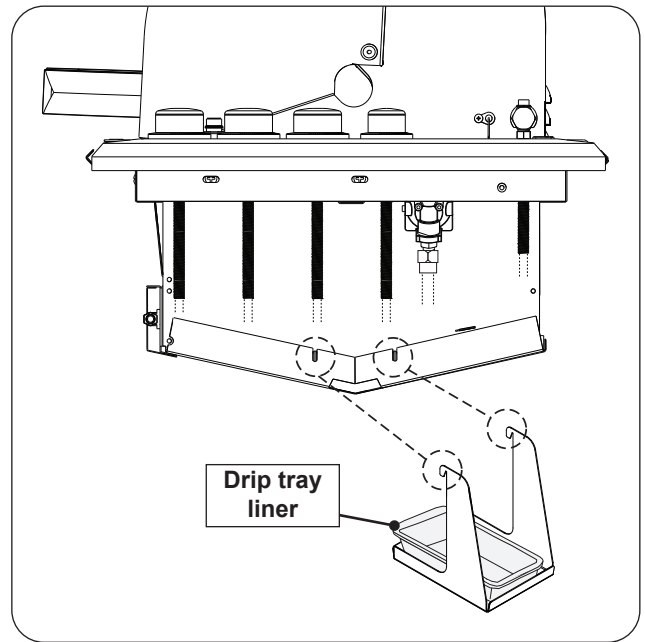

Fig. 25-1 Install drip tray
1. Through the enclosure side access door, install the drip tray by inserting the hooks into the two slots found on the lower right side of the grill (see Fig. 25-1).